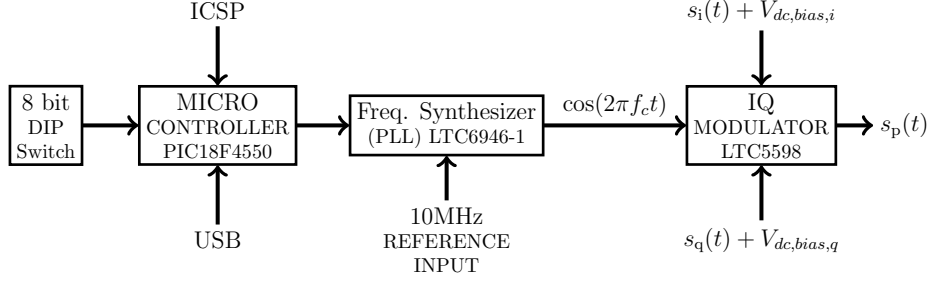

Figure 3: The block diagram of the IQ modulator board.
The block diagram of the IQ modulator board is shown in Fig. 3. It consists of several components, among which, the following ones are worth mentioning:
- a. **The IQ Modulator IC:** In these experiments, the role of this IC is to upconvert the analog baseband I and Q signals to the RF carrier frequency. The local oscillator (LO) signal going to the IQ modulator, i.e. the carrier frequency signal here, is generated by an on-board frequency synthesizer (i.e. a phase locked loop). Internally in the IQ modulator IC, a poly-phase filter uses the LO signal to generate its  $0^\circ$  and  $90^\circ$  phases. These two phases are multiplied by the analog baseband I and Q signals (which are provided by an external source), respectively, and the resulting signals are combined to obtain the desired passband signal  $s_p(t)$  at the output port, as shown in Fig. 3.